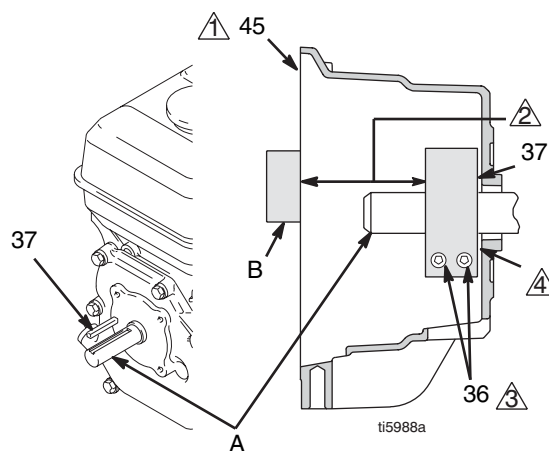

FIG. 10
4. FIG. 10. Loosen two screws (36) on clamp (38),
5. Push screwdriver into slot in clamp (38) and remove clamp.
1. FIG. 10 Install engine shaft key (37)
2. Tap clamp (38) onto engine shaft (A). Maintain dimension shown note 2. Chamfer must face engine.
3. Check dimension: Place rigid, straight steel bar (B) across face of clutch housing (45). Use accurate measuring device to measure distance between bar and face of clamp. Adjust clamp as necessary. Torque two screws (36) to 125 ± 10 in-lb (14 ± 1.1 N-m)
4. Install armature (39) on engine drive shaft.
5. Install four screws (36) and lock washers (35) with torque of 125 in-lb.